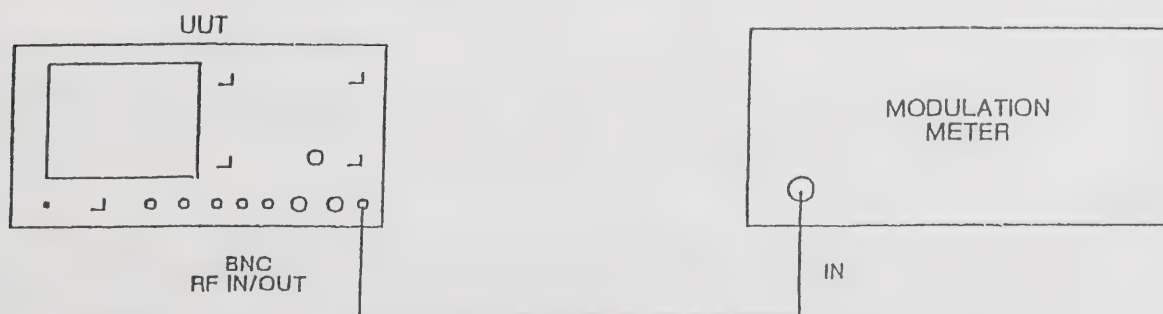

Fig. 3-12 Test equipment connections for AM and FM calibration
- (1) Connect the equipment as shown in Fig. 3-12.
- (2) Set the UUT to RECEIVER TEST, RF generator frequency 125 MHz, RF level 5 dBm, modulation frequency 1 kHz, modulation level depth 70%, BNC socket, distortion-SINAD-S/N off.
- (3) Set the modulation meter to AM, (pk-pk)/2, 0.3 to 3.4 kHz band-pass filter selected.
- (4) Note the modulation depth indicated on the modulation meter.
- (5) Enter the CALIBRATION DATA facility as described in Chap. 2.
- (2) Set the UUT to RECEIVER TEST, RF generator frequency 165 MHz, RF level 0 dBm, modulation frequency 1 kHz sine wave, deviation 10 kHz, BNC output socket selected.
- (3) Set the modulation meter to FM, (pk-pk)/2, 0.3 to 3.4 kHz BP filter selected.
- (4) Note the deviation measured on the modulation meter.